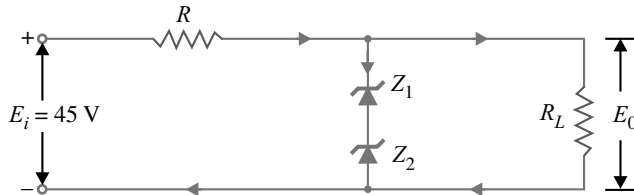

Fig. 4.75
**Example 4.45.** The circuit of Fig. 4.75 uses two zener diodes, each rated at 15 V, 200 mA. If the circuit is connected to a 45-volt unregulated supply, determine :
**Solution.** When the desired regulated output voltage is higher than the rated voltage of the zener, two or more zeners are connected in series as shown in Fig. 4.75. However, in such circuits, care must be taken to select those zeners that have the same current rating.